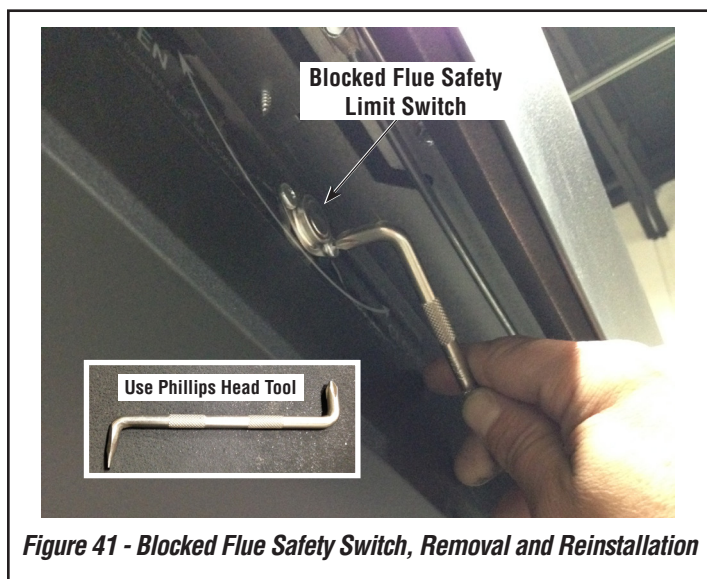

Figure 41 - Blocked Flue Safety Switch, Removal and Reinstallation
This appliance is equipped with a manually-reset blocked flue safety limit switch. Refer to **Figure 41** for its location. If, during appliance operation, the flame goes out (independently of the burner on/off wall switch), it may be due to the operation of this safety limit switch. **First allow the appliance to cool**, then reset the safety switch by pressing the red reset button on the back of the switch.
To access the blocked flue safety limit switch, refer to Figure 41:
1. To access the blocked flue safety switch, remove the two (2) phillips head screws (*shown in Figure 41*) and pull out switch.